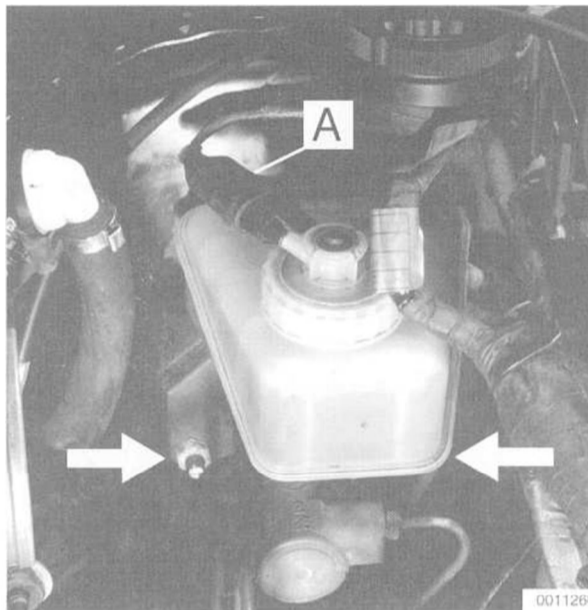

Fig. 12. Brake master cylinder mounting nuts (arrows), and brake fluid level sender connector (A).
4. Disconnect the brake fluid lines from the master cylinder. Unscrew the mounting nuts and remove the master cylinder from the brake booster. See Fig. 12.